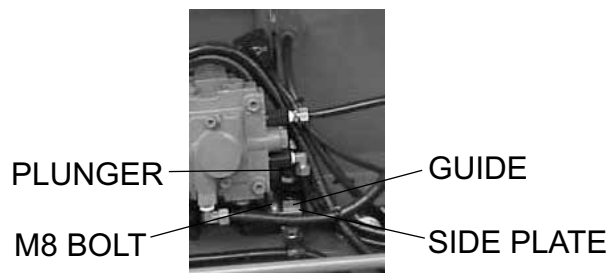

Figure 28. Adjustment of Neutral Position
3. If roller travels forward with the ball of ball plunger remaining in V slot of the guide, loosen M8 bolt and slide the slide plate slightly toward the engine. If the roller travels backward, slide the plate towards side plate (Figure 28).